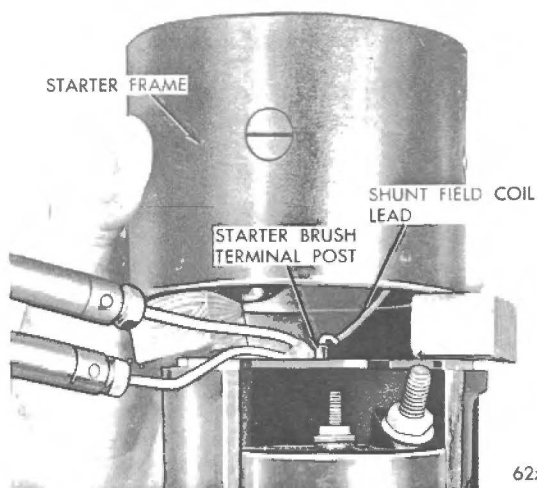

Fig. 5 Unsoldering Shunt Coil Lead Wire
(5) Unsolder the shunt field coil lead from the starter brush terminal (See Fig. 5).